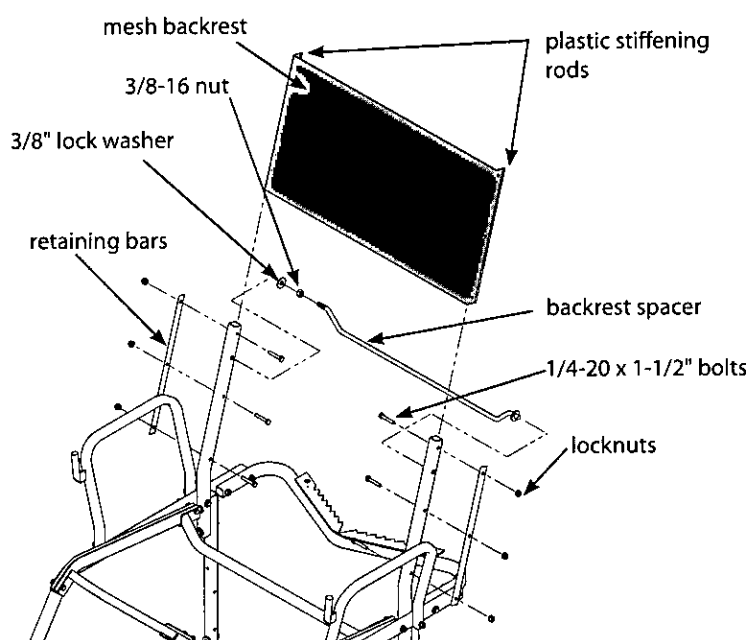

Figure 10
13. Attach the mesh backrest (360022) and the (2) retaining bars (410081) to the backrest mounts using (6) provided 1/4-20 x 1-1/2" bolts and locknuts. **SEE FIGURE 10.** The mesh backrest must wrap around the front side of backrest mounts and the plastic stiffening rod located in the sewn sleeve on each side of the backrest **MUST** be positioned behind the backrest retainer bars to act as a stop and prevent the backrest from pulling out during use. All bolts **MUST** go through the backrest retainer bars, the holes provided in the backrest and the backrest mounts. **SEE FIGURE 10.** Temporary removal of the backrest mount tube from the rest of the assembled ladder top may be necessary to attach the mesh backrest. If this is needed, re-attach backrest mount tubes with mesh backrest to the ladder top assembly.
14. Thread the non-locking 3/8-16 nut onto the threaded end of spacer rod all the way to the bottom of threads and slide 3/8" lock washer on. Insert the threaded end of spacer rod through either backrest mount tube far enough to be able to insert the opposite end of spacer rod (end with welded-on washer) into opposite backrest mount tube. Thread 3/8-16 nut back against mount tube. Using a 9/16" wrench, tighten nut until mesh backrest becomes taut. **SEE FIGURE 10. You must now tighten all nut and bolt assemblies. Be sure not to over tighten or crush tubing when tightening!**